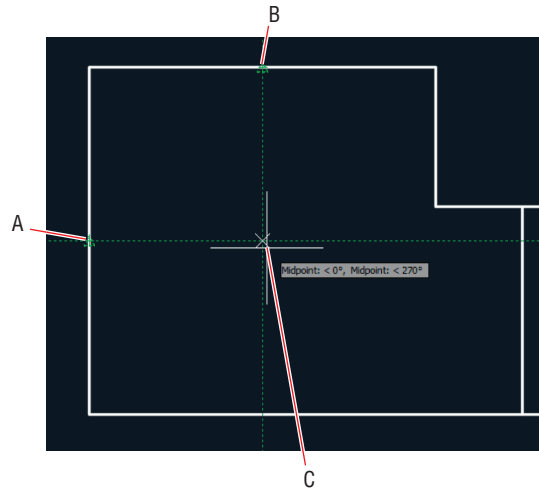

FIGURE 3.15 Locating a circle's center point with object snap tracking
3. Move the cursor over point A in Figure 3.15. When the running mid-point snap marker appears, move the cursor horizontally to the right to establish the first tracking line. Do not click yet.
4. Move the cursor over point B in Figure 3.15, and wait for the Midpoint marker to appear. Move the cursor down vertically to establish the second tracking line. Again, do not click yet.